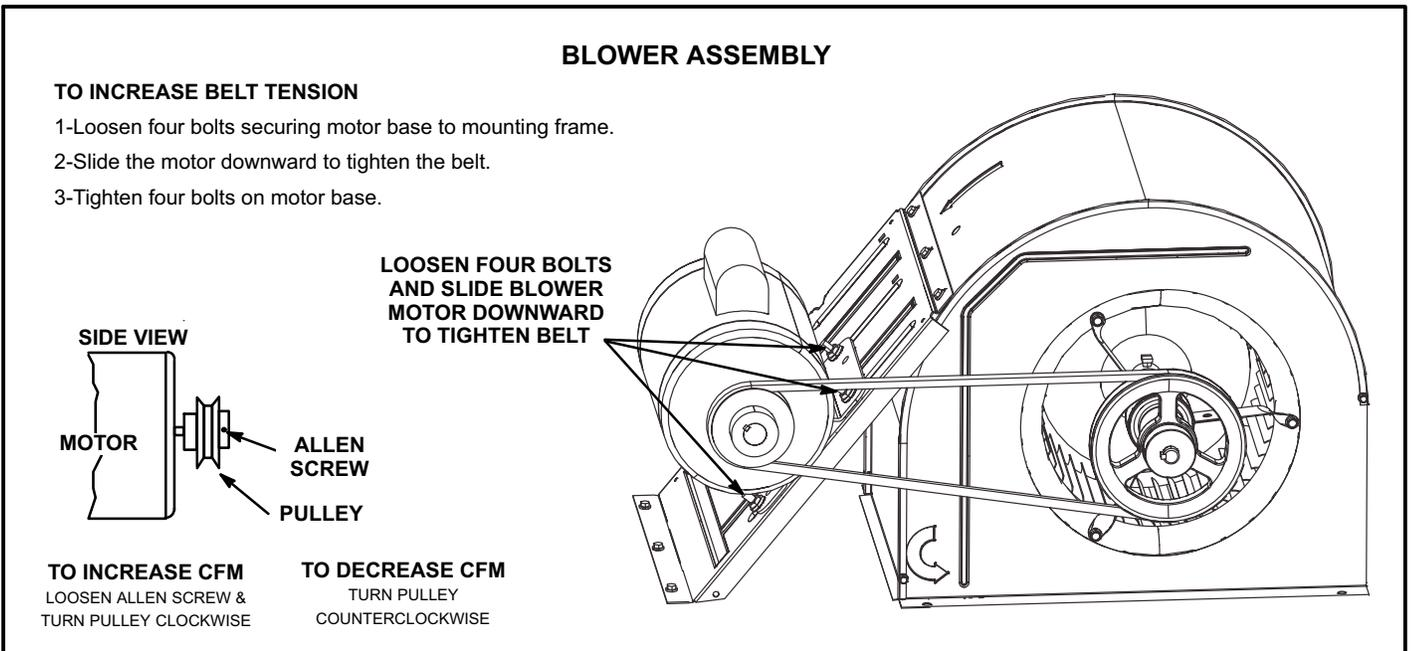

FIGURE 6
- 4- The blower RPM can be adjusted at the motor pulley. Loosen Allen screw and turn adjustable pulley clockwise to increase CFM. Turn counterclockwise to decrease CFM. See figure 6. Do not exceed minimum and maximum number of pulley turns as shown in table 1.
- 1- Loosen four bolts securing motor base to mounting frame. See figure 6.